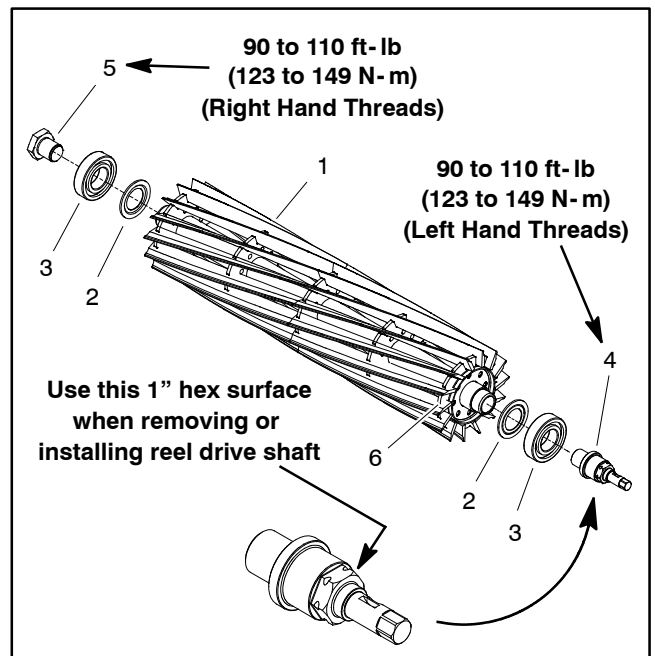

Figure 29
4. Loosen the bearing lock screw and the reel drive shaft (Fig. 29):
3. Position the cutting unit on a flat work area. The rollers, bedbar and cutting unit crossmember should be attached to LH side plate. Make sure that pitch arm (item 15) and compression spring (item 3) is fitted to LH side plate.
5. Carefully slide the RH side plate with pitch arm (item 7) and compression spring (item 3) onto the cutting reel assembly, front roller and rear roller. Make sure that side plate is fully seated onto bearing on reel shaft.
6. Install shoulder bolts (item 4) and flange nuts (item 5) to secure the RH side plates to the crossmember. Torque the shoulder bolts from **210 to 240 in-lb (24 to 27 N-m)**.
9. If loosened during cutting reel service, tighten the bearing lock screw and the reel drive shaft (Fig. 29).